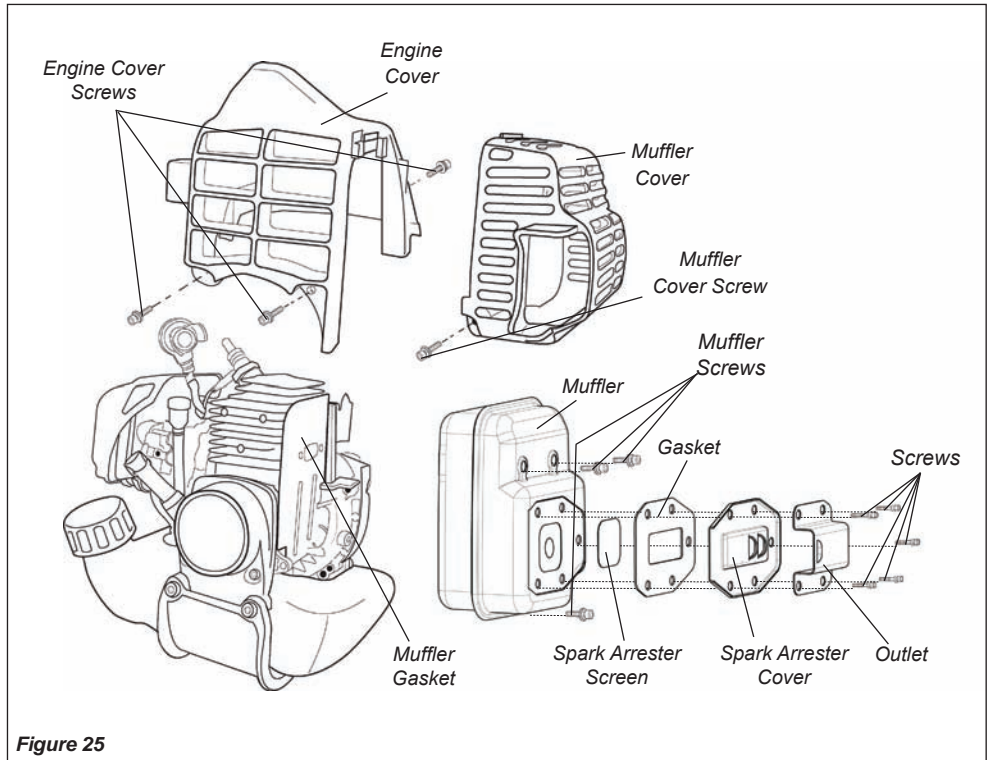

Figure 25
2. With a 3 mm hex wrench remove the 1 muffler cover and 3 engine cover screws and the engine cover. See Figure 25.
3. With a Phillips type screwdriver remove the 5 screws holding the spark arrester screen and cover to the muffler. See Figure 25.
5. With a 4 mm hex wrench remove the 3 muffler bolts and the muffler. See Figure 25.